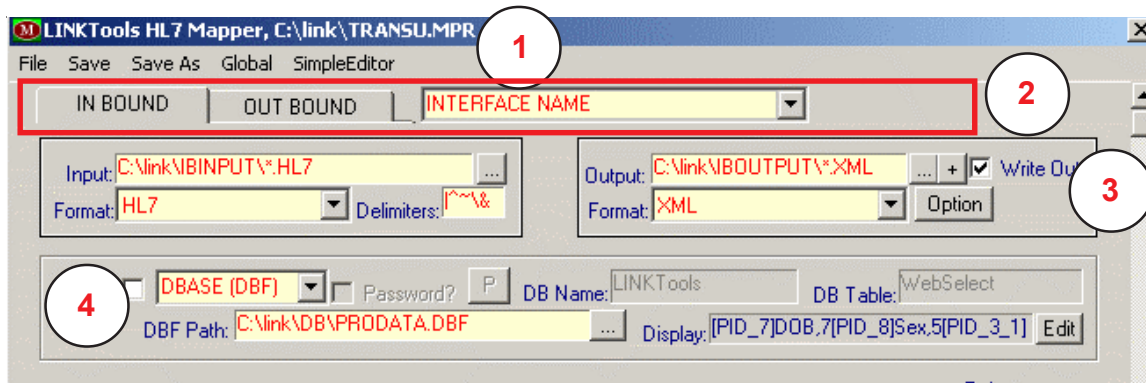

Figure 5: Dynamic Mapper Configuration Dialog Box Row 1 to 4
3. Mapper file name can be entered in the INTERFACE NAME column for faster mapper interface template loading into the Configuration Dialog Box (Useful for developer who works on multiple Mapper Files). (Figure 5)